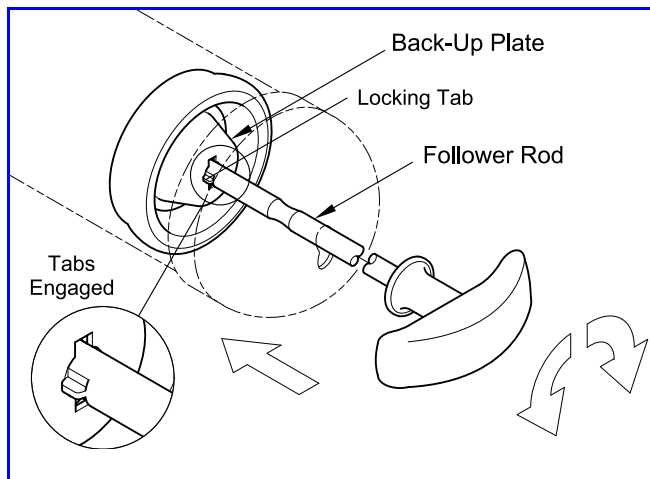

Figure 5 Follower Rod Engaged with Back-Up Plate
3. Rotate the Rod and allow the Locking Tabs to contact the Back-Up Plate. See **Figure 5**.